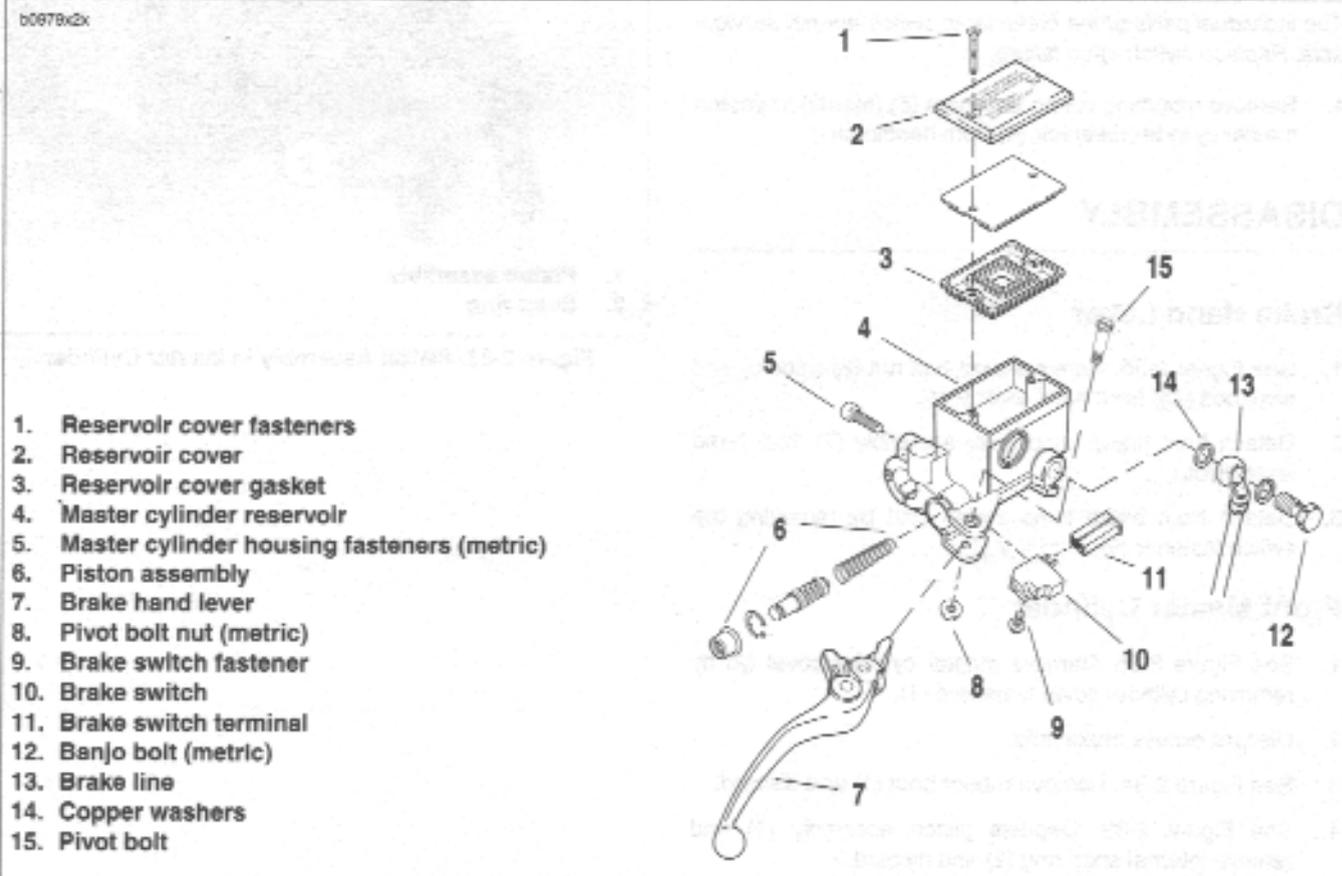

Figure 2-35. Front Brake Hand Lever Assembly
4. See Figure 2-35. Insert piston assembly (6), spring first, into master cylinder reservoir (4).
1. See Figure 2-35. Lubricate pivot bolt (15) with LOCTITE ANTI-SEIZE.
2. Align hole in hand lever (7) with hole in hand lever pivot and install pivot bolt (15) through top of hand lever pivot and tighten to 80-120 in-lbs (9-14 Nm).
1. See Figure 2-35. Install front brake lamp switch (10).
- a. Install brake lamp switch (10) with switch fastener (9) and tighten to 7-10 **in-lbs** (0.8-1.0 Nm).
- b. Connect brake switch terminal (11) to brake lamp switch (10).
3. See Figure 2-35. Connect brake line to master cylinder using two **new** copper washers (14) and banjo bolt (4) (metric) and tighten to 16-20 **ft-lbs** (22-27 Nm).
5. See Figure 2-35. Remove two master cylinder cover screws (1), cover (2) and cover gasket (3).
9. See Figure 2-35. Attach master cylinder cover (2) and cover gasket (3). Tighten two cover fasteners (1) to 9-13 **in-lbs** (1.0-1.5 Nm).
3. See Figure 2-35. Remove master cylinder banjo bolt (12) (metric) and two copper washers (14) to disconnect brake line from master cylinder (4). Discard copper washers.
1. See Figure 2-35. Connect brake line (13) to master cylinder (4) using two **new** copper washers (14) and a banjo bolt (12) (metric). Loosely install bolt into master cylinder.
- See Figure 2-35. Tighten master cylinder banjo bolt (12) (metric) to 16-20 ft-lbs (22-27 Nm).